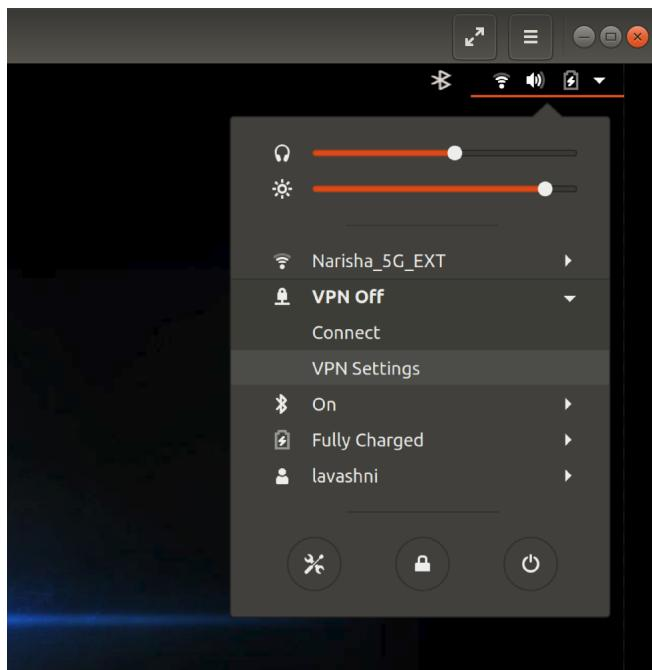

Figure B.1: Linux VPN settings
- After downloading the .ovpn config file, go to VPN settings as shown in **Figure B.1**.
- You can now connect to VPN (see **Figure B.1**)